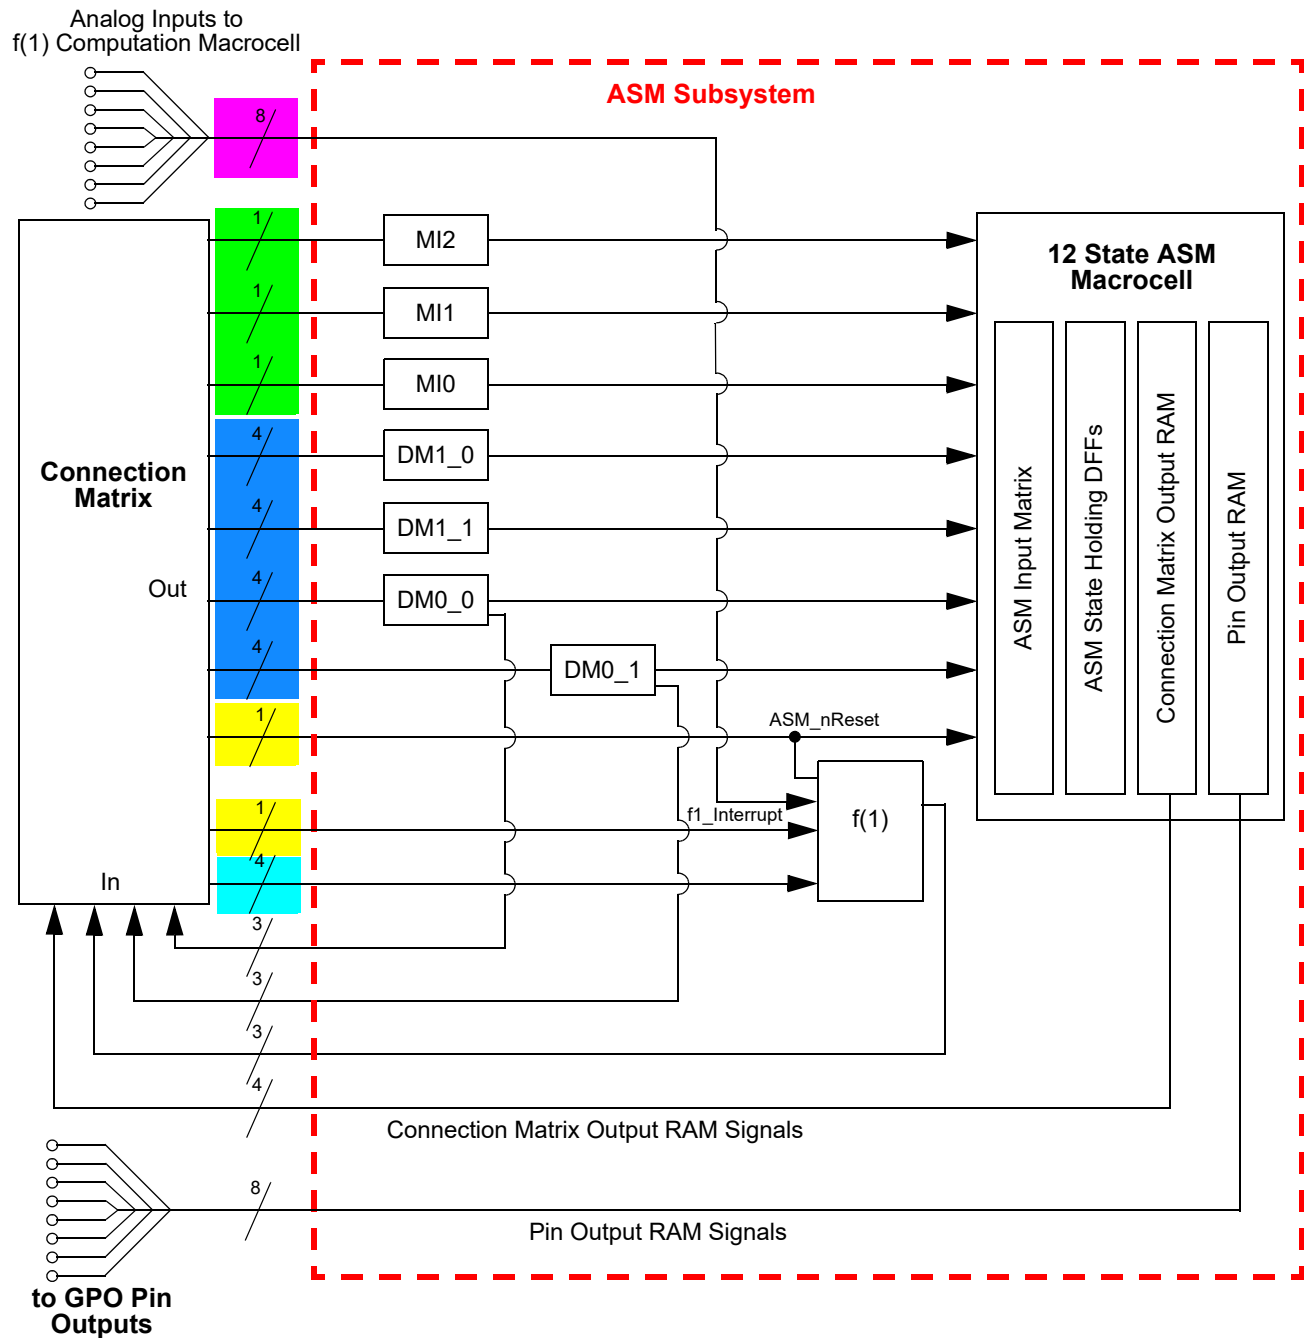
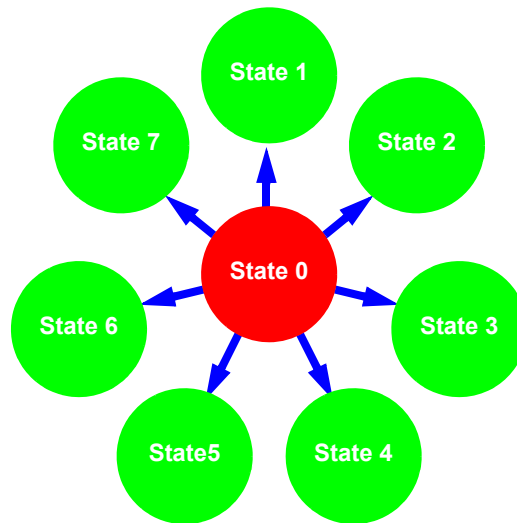
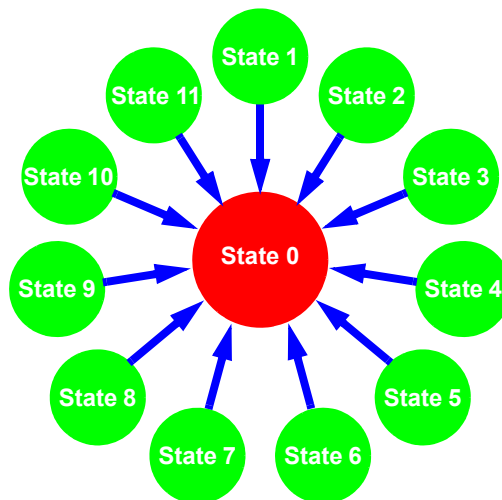

Figure 92: ASM Subsystem Input Signals
Figure 93: Maximum 7 State Transitions out of a Given State
Figure 94: Maximum 11 State Transitions into Given State
The ASM Subsystem has a total of 25 digital input signal lines, as shown in Figure 92, which all come from the Connection Matrix outputs. Of these 25 input signals, 3 are user selectable inputs going directly from the Connection Matrix to the three Matrix Interface (MI) macrocells. There are a total of 16 input signals that go to the DMx_x macrocell, four per macrocell. There is 1 ASM_nReset input that is for driving a state transition in both the ASM macrocell and the f(1) Computation Macrocell to an Initial/Reset state. There are 4 digital input signals coming from the Connection Matrix to the f(1) Computation Macrocell. There is also 1 dedicated Interrupt input to the f(1) Computation Macrocell that will halt any active operations and transfer control back to the ASM macrocell. Each of the 25 input signals are level sensitive.
There are a total of 16 digital input signals to the ASM Subsystem which are inputs directly to the DM macrocells. These 16 signals are shown in Figure 92, highlighted in blue. While there are 4 input signals coming from the Connection Matrix and going to each DMx_x macrocell, there is only 1 output signal from each of these macrocells, which goes directly to the ASM macrocell. There are also 3 signal lines that come directly from the Connection Matrix and go to the three Matrix Interface (MI) macrocells which can drive state transitions. These signals are shown in Figure 92, highlighted in green. This sets an upper bound on the number of transitions that the user can select going **out of** a particular state to be 7, shown in Figure 93. There is no limitation on the number of unique transitions that can be supported going into a particular state, the user can select to have transitions going from a state to all other states, shown in Figure 94. Each of these input signals to the ASM macrocell is level sensitive, and active high. A high level input will trigger a state transition.
There are a total of 8 analog inputs coming from various pins which can be muxed into the positive input for the f(1) Analog Comparator inside the f(1) Computation Macrocell. These 8 signals are shown in Figure 92, highlighted in pink. The f(1) Analog Comparator can be re-programmed for analog input source and negative input reference settings. The user selections for both positive input signal and negative reference are included as part of the information stored in the f(1) Command Register Table. This allows the user to make different analog measurements that are state dependent in their analog sources and reference settings.
The ASM macrocell also has a ASM_nReset input. This input to the ASM macrocell is level sensitive and active low. This signal is shown in Figure 92, highlighted in yellow. An active signal on this input will drive an immediate state transition to the user-defined Initial/Reset state. The user can choose which state within the ASM Editor inside GPAK Designer will be the reset state.
There is also 1 dedicated f1_Interrupt input to the f(1) Computation Macrocell that will halt any active operations and transfer control back to the ASM macrocell. This signal is shown in Figure 92, also highlighted in yellow.